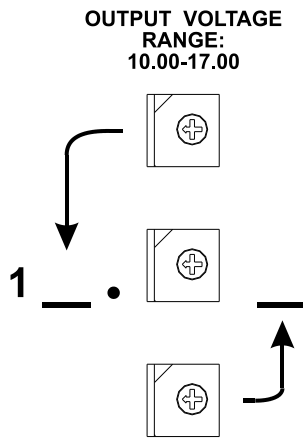

Figure 8.1
The battery charger is adjustable with the three rotary switches on the front of the charger. The switches (settable between 10.00 and 17.00) determine the float voltage for the batteries. **SET THE FLOAT VOLTAGE TO THE BATTERY MANUFACTURER'S SPECIFIED VOLTAGE FOR 77°F.** The charger will then electronically charge the batteries to the voltage specified on the switches. To set the switches, use a small screwdriver and turn the switch so that the arrowhead on the slot is pointing to the desired number. Set the switches in the following manner: If the desired battery voltage is 13.38 volts, set the top switch to 3, the middle switch to 3, and the bottom switch to 8 (see the Figure 8.1). This will provide you with the proper charging voltage. The tens digit is always a one (1) and cannot be changed. **BE SURE EACH SWITCH IS SET ON A NUMBER AND NOT BETWEEN**